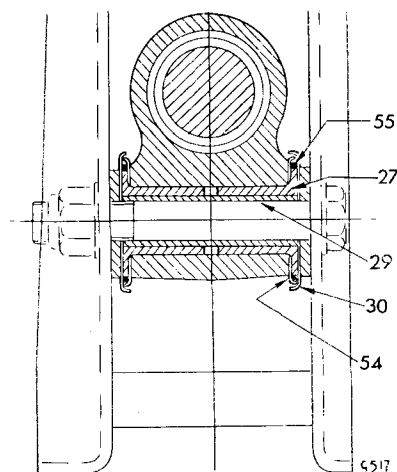

Fig. 32. Sectioned view of trunnion bushes
6. Examine and if necessary replace the seals and bushes as Fig. 32.